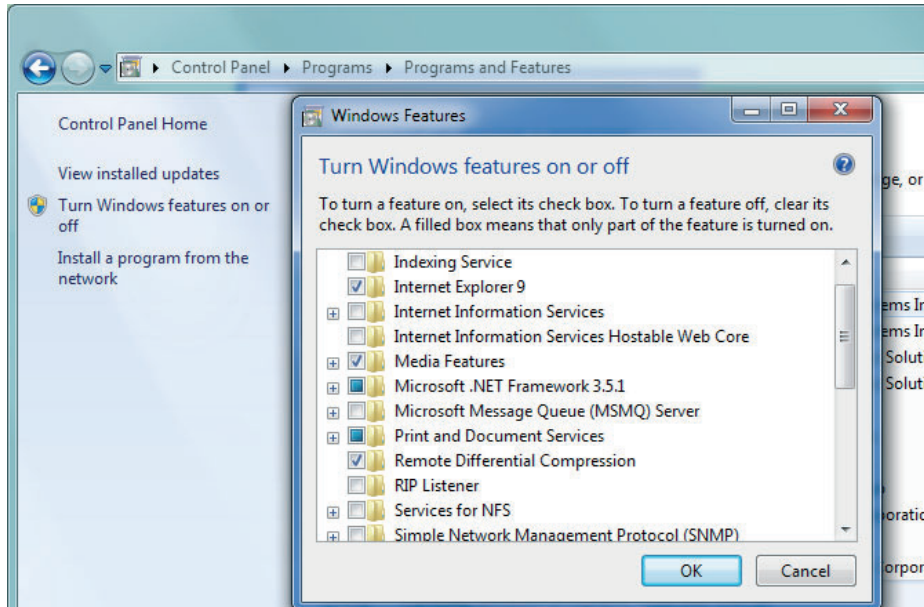

Figure 2-12
1. Access to the Control Panel - Programs and Features - Turn Windows Features on or off. Please check whether the .NET Framework 3.5.1 has been installed. If it not installed, check “Continue”. See Figure 2-12: